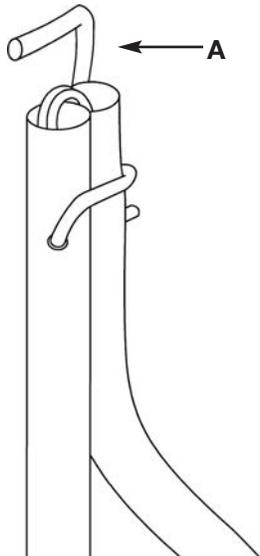

Figure 1
1. To secure parts during shipping, a wire is wrapped around the upper and lower tube sections. Remove it, but don't discard (Figure 1).